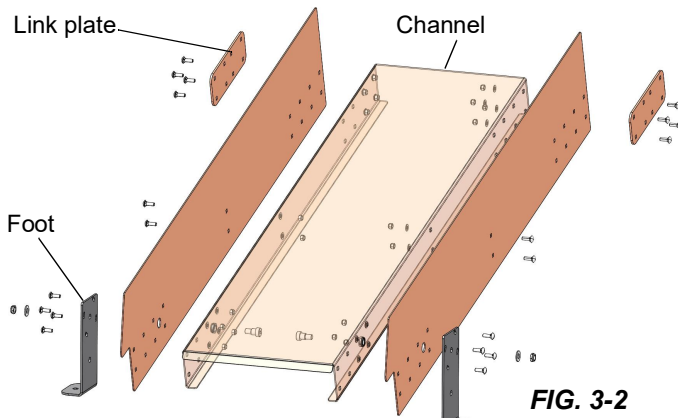

FIG. 3-2
3. Assemble the feet of the lower incline section as shown in FIG. 3-2.